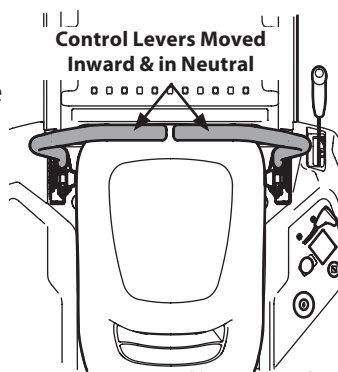

Figure 26
2. Move the RH and LH lapbar drive control levers inward in the neutral position which also disengages the parking brake. Refer to Figure 26.